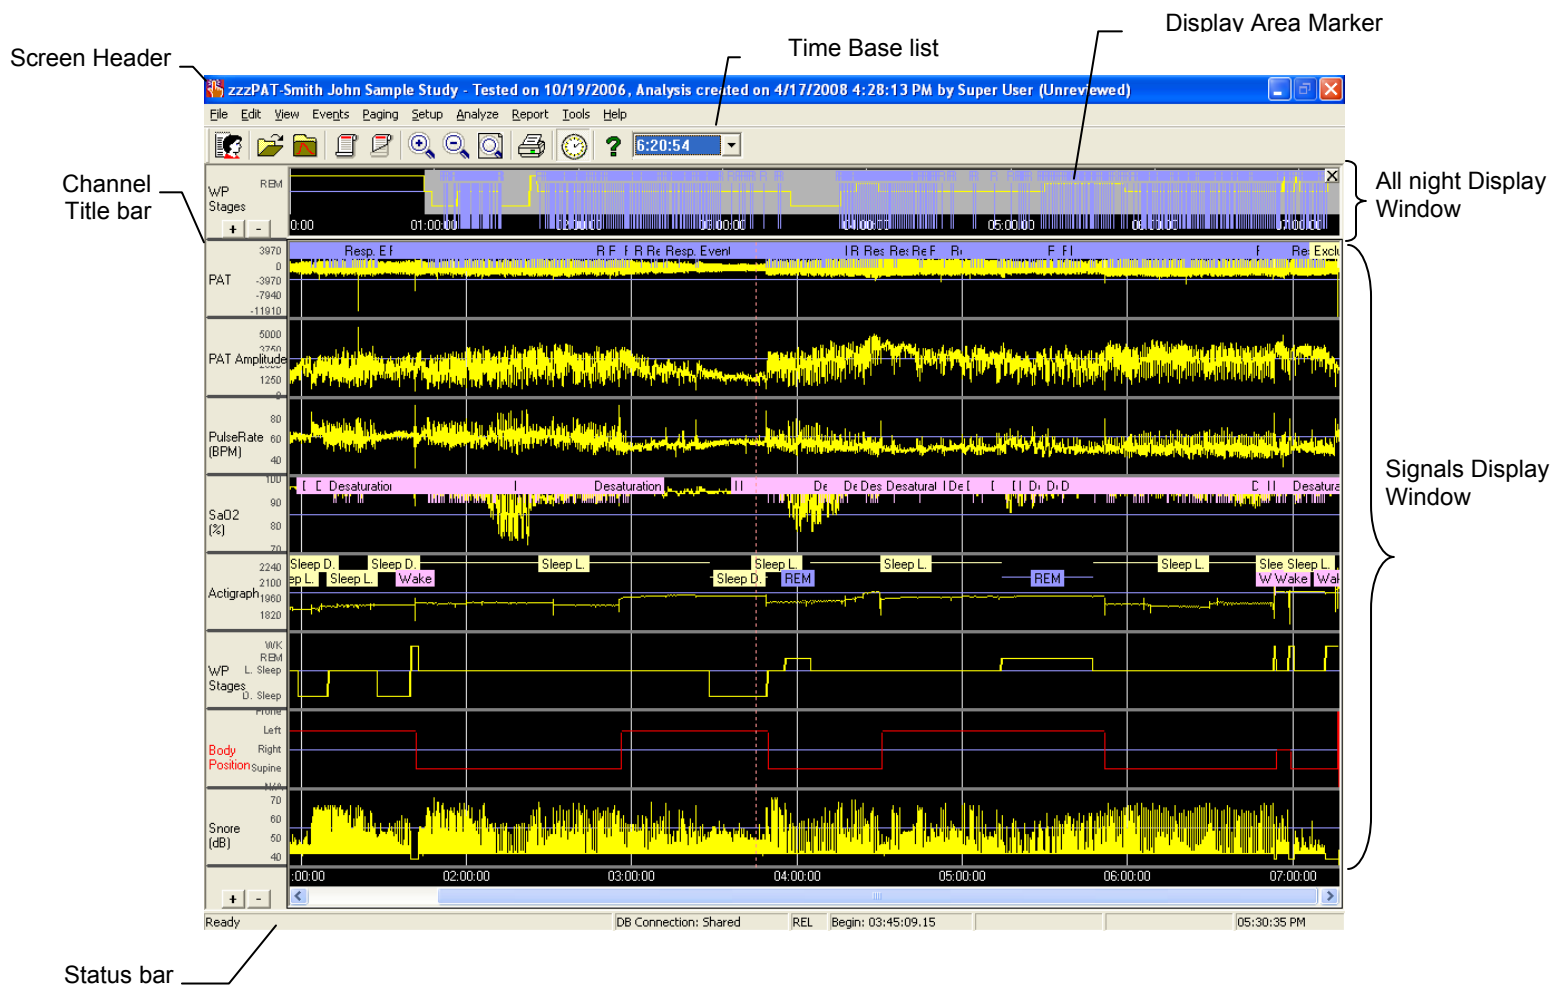

Figure 48 - zzzPAT display screen
At this stage Automatic Analysis is performed and the results are saved in the database. After the Automatic Analysis is completed the results are displayed on screen (see Figure 48). The user has the option to display the "Sleep report" or "Sleep Indices" report box automatically after loading a study (see 3.3.3).
- The 'Display Area Marker' that appears as a highlighted rectangle in the 'All Night Window' (See Figure 48), is the section being viewed in the 'Signals Display Window'.